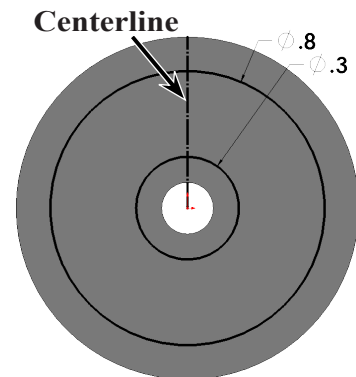

Fig. 8
Step 7. Click **Centerline**  (S) in the **Line flyout**  on the Sketch toolbar.
Step 8. Draw a centerline from the Origin  **up to edge of Wheel**, **Fig. 8**. Keep centerline vertical.